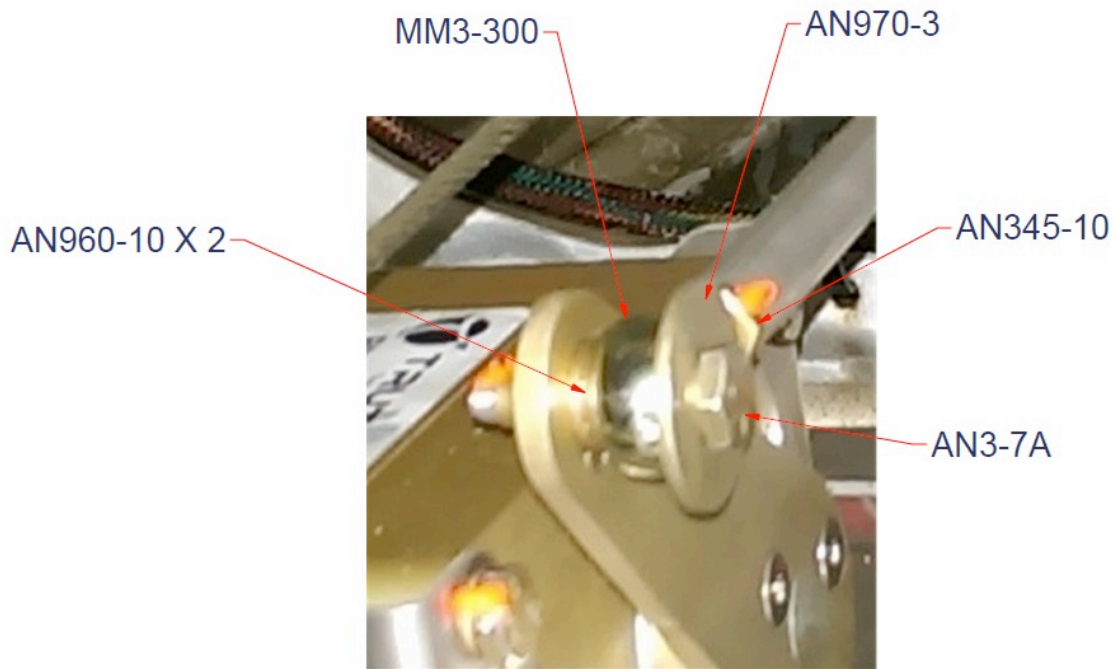

Figure 3-16
16. Attach the pushrod to the pitch servo arm with hardware as shown in Figure 3-16 and torque to 20-25 in-lb.